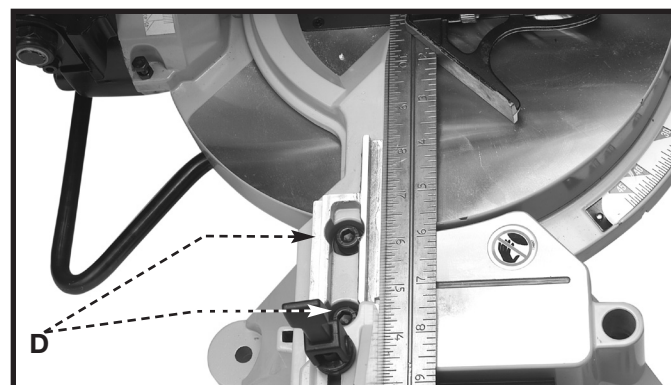

Fig. 25
2. To adjust, pull up on the two fence tension knobs (one of which is shown at (C) Fig. 24), and move both fences outward. Loosen the four screws (two of which are shown at (D) Fig. 25), and adjust the fence 90° to the blade.
3. Tighten the four screws (D) Fig. 25 (Two are shown.)